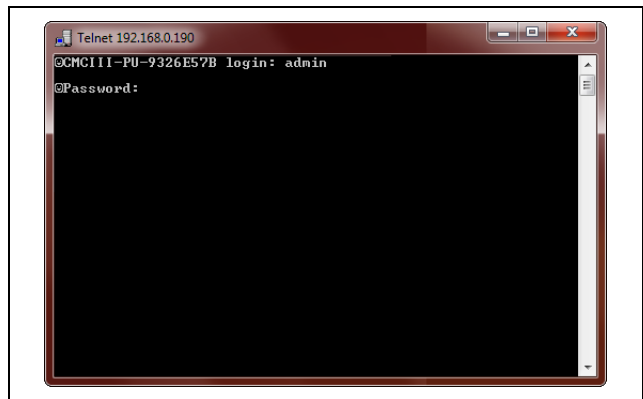

Fig. 12: Login page
- Press the "Return" key once to display the login page. This corresponds to the login page for a Telnet connection (fig. 12).